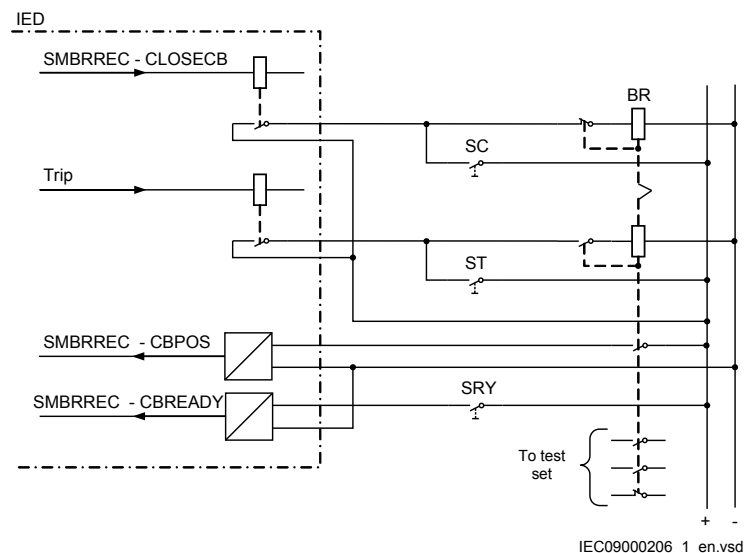

Figure 21: Simulating the CB operation by a bi-stable relay/breaker simulator and manual switches
The verification test is performed together with protection and trip functions. Figure 21 illustrates a suggested testing arrangement, where the circuit-breaker (CB) is simulated by an external bi-stable relay (BR), for example a relay type RXMVB2 or RXMD or Breaker Simulator of ABB. The following manual switches are used:
- Switch or push-button to close (SC)
- Switch or push-button to trip (ST)
4. Make arrangements for the simulation of the CB, for example as in figure 21.